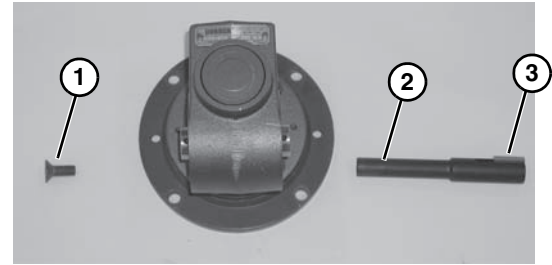

Figure 21
9. Remove M10 shaft locking screw (**Figure 21, item 1**), remove gear reducer output shaft (**Figure 21, item 2**) and key (**Figure 21, item 3**).
Output shaft (**Figure 21, item 2**) is held in Gear Reducer with a tapered press fit. Removal may require use of an arbor press.
10. Insert the new shaft with key (**Figure 21, item 3**) into new gear reducer. Tighten M10 shaft locking screw (**Figure 21, item 1**) to 300 in-lbs (34 N-m).